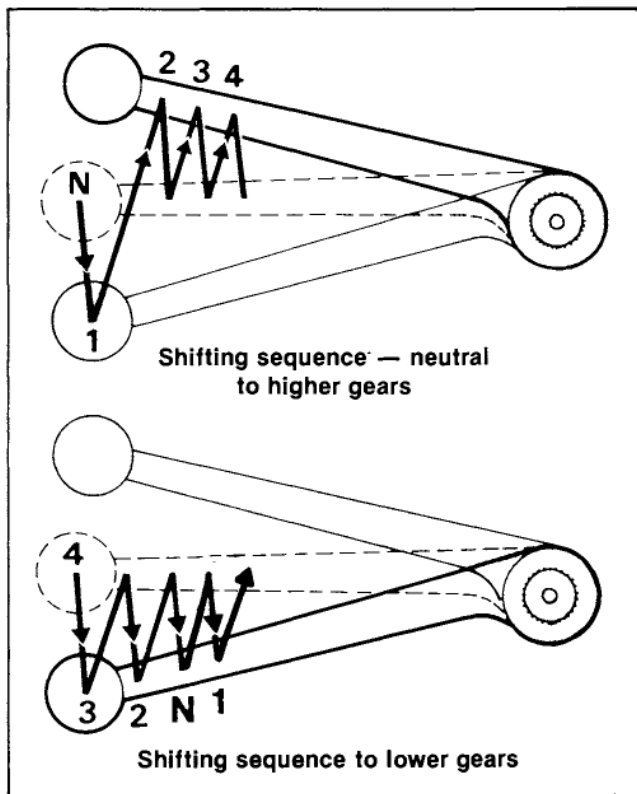

Figure 20. Shifting Sequence — 4-Speed
See Figure 2. To start moving with motorcycle upright and engine idling, pull the clutch lever (7) to fully disengage clutch. See Figure 20. Push shifter lever down firmly but gently to end of its travel to engage first gear. Then release the clutch lever slowly to engage the